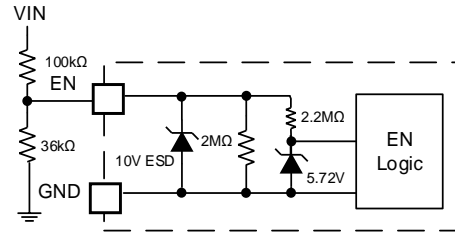

Figure 8: EN Internal Circuit
The MP4245 has enable (EN) control. The EN pin has two thresholds. The first threshold is when $EN > 0.7V$, and VCC is enabled. The second threshold is when $EN > 1.6V$, and the chip starts to operate normally. The EN pin is clamped internally using a 10V series Zener diode (see Figure 8). Connect the EN input pin through two resistor dividers to the V_{IN} supply and GND. The EN rising threshold is 1.6V, so V_{IN} must exceed 6.05V to enable the circuit. If the